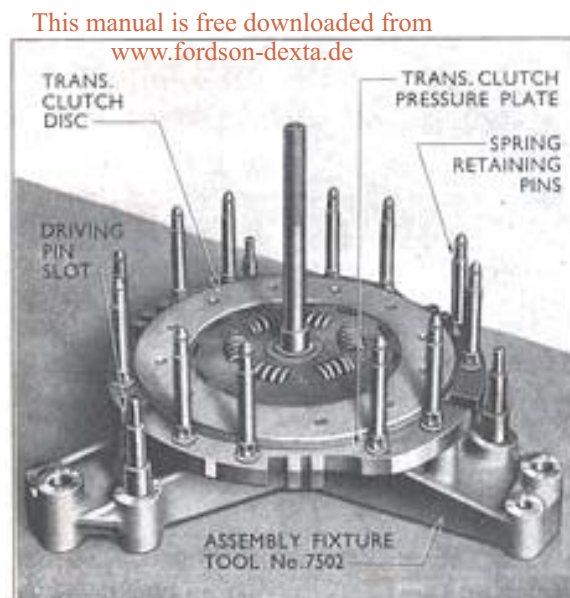

Fig. 8
2. Locate the transmission clutch pressure plate centrally on the three lugs cast in the base arms of the fixture and, to facilitate installation of the centre drive plate, position the pressure plate so that the centres of the three driving pin slots are offset approximately $1\frac{1}{8}$ ins. (28.57 mm.) in a clockwise direction from the centres of the fixture locating pegs (see Fig. 8).
3. Place the transmission clutch disc, sprung hub downwards, on the transmission clutch pressure plate, locating the bore of the disc hub on the large diameter at the bottom of the fixture centre spindle (see Fig. 8).